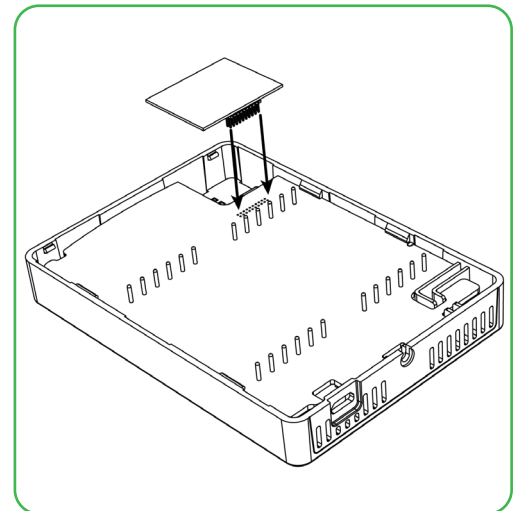

Figure 2
4. Locate the gap in the upper-right corner of the Room Controller's motherboard, as well as the holes indicating where to insert the ZigBee Pro module into the motherboard (Figure 2).